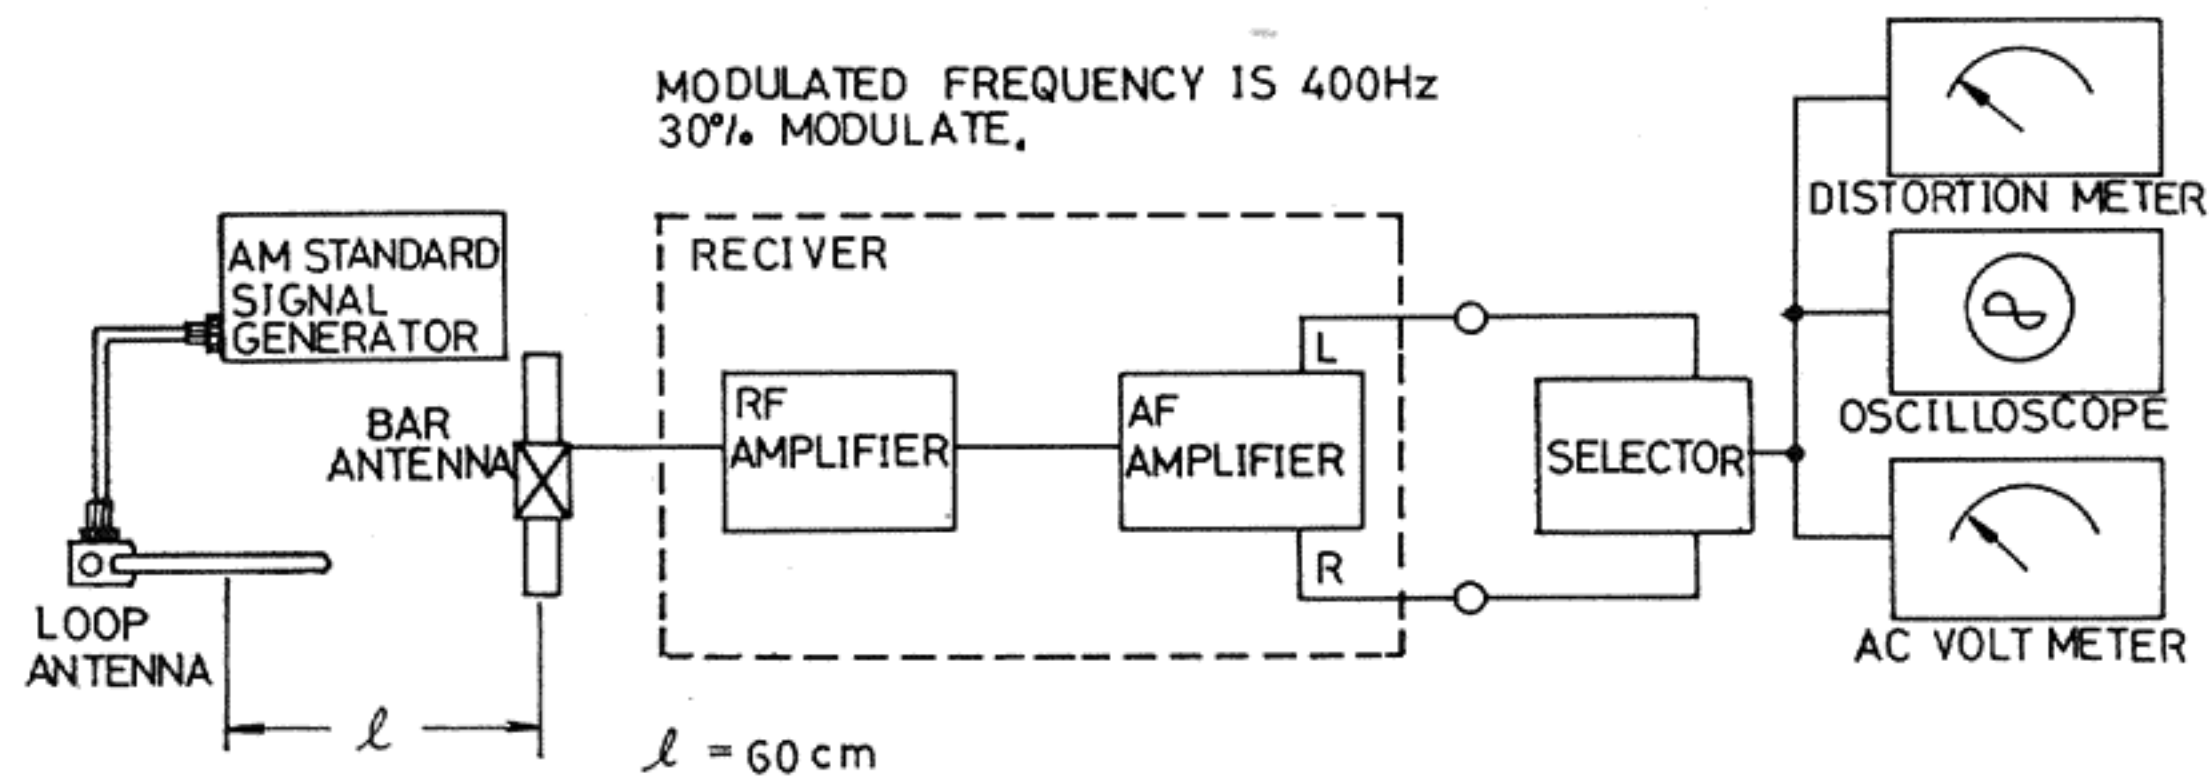

Fig. 11
- Signal generator : Tune in 455kHz and connect output of S. S. G. to loop antenna (See Fig. 11).